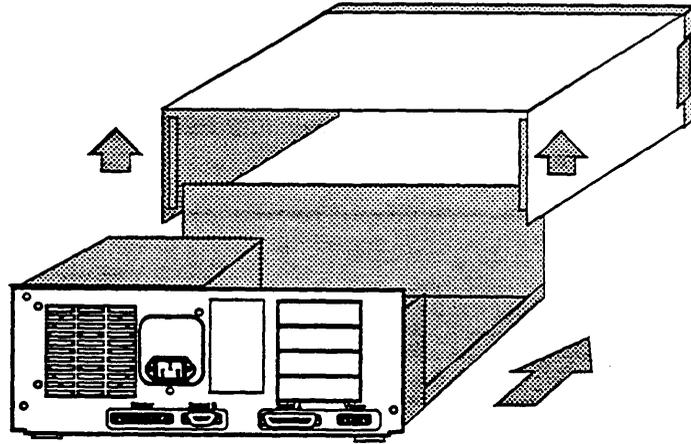

Figure 3-2. Master Controller II+ Cover Removal
4. Slide the cover off the system unit by pulling it completely forward until it clears the front of the chassis as shown in Figure 3-2. Then tilt the back of the cover up and remove it. Take care not to catch the cover on any internal cables or wires.